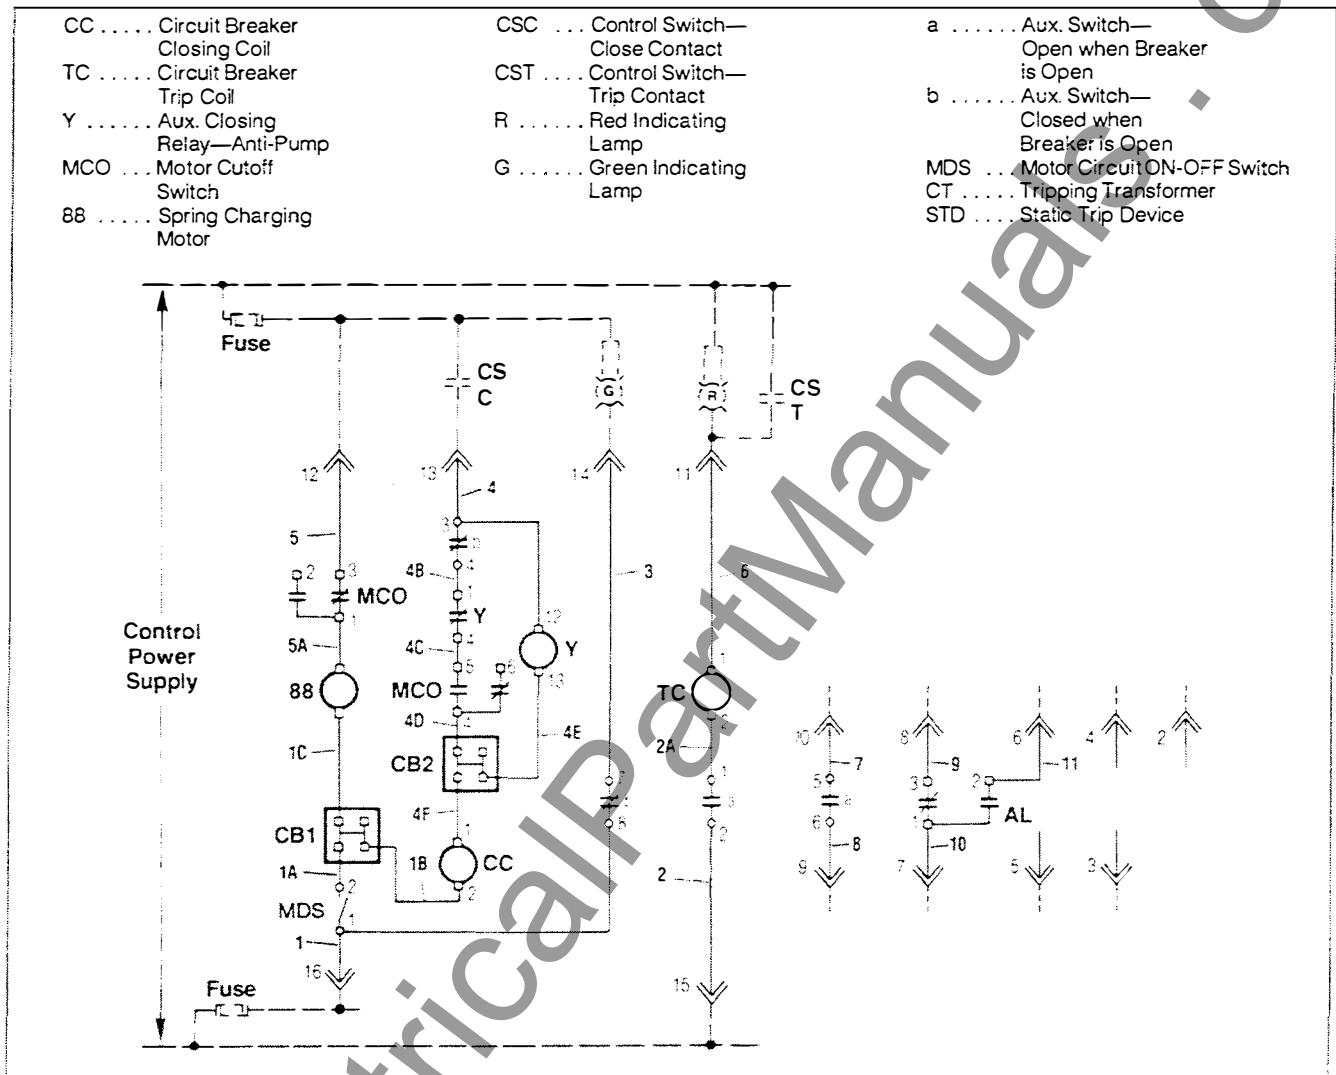

Figure 3. Typical Schematic—Electrically Operated Breakers
Tripping	Push in manual trip rod (94). OR If shunt trip is provided, operate remote trip control switch (CST). (See Figure 3 .)